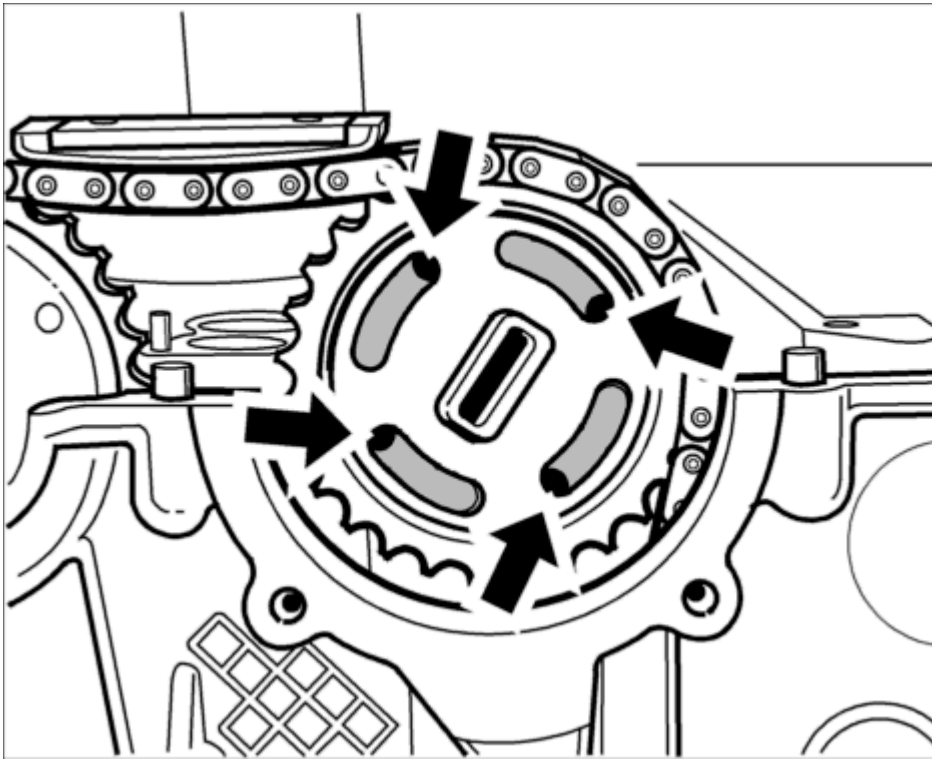

Fig. 28: Position of sprocket 4 - 6 at 60° before TDC
7. Insert exhaust camshaft sprocket in the timing chain and position on camshaft flange. The four threaded bores in the camshaft flange must be covered approximately half way by the slots of the sprocket **in the clockwise running direction of the engine -arrows-** . See **Fig. 28**.